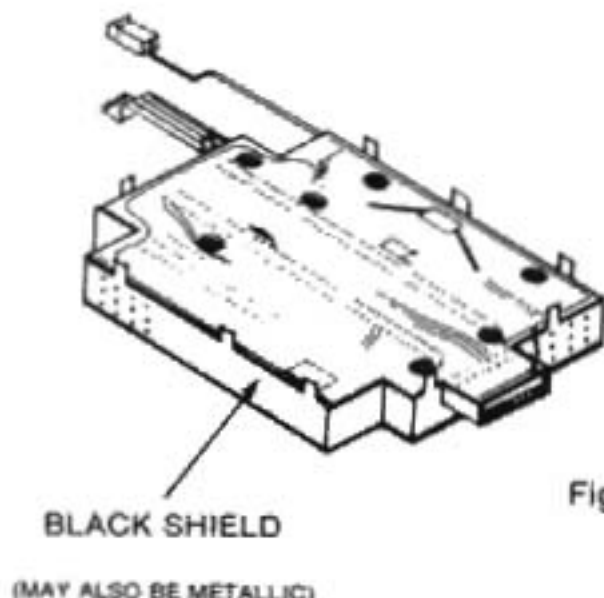

Figure 4-10
(1) Refer to Figure 4-10. Carefully unsolder and remove logic board shields. **NOTE: WHEN UNSOLDERING THE SHIELDS, BE SURE THAT EXCESS SOLDER DOES NOT CAUSE ANY SHORTS ON THE LOGIC BOARD COMPONENTS AND TRACES.**
(2) Inspect circuit board for evidence of broken or peeling circuit traces.
(3) Inspect components on circuit board for evidence of charring, swelling, arcing or shorting.
(4) Inspect connectors for bent, broken or missing connector pins.
(5) Make sure all socket mounted ICs are fully seated in sockets. Make sure that heat-sinks on ICs U1, U2 and U4 are securely attached to the ICs.
(6) Inspect all jumper wires for evidence of burned or frayed insulation. Make sure all jumper wires are securely soldered to circuit board.
(7) Make sure that connector J5 is securely attached to wire.
(2) Support the circuit board so that it will not move or cause the soldering iron to strike other components.
(3) Install new components in the same position as they were removed.
(4) Inspect and test all resoldered connections.
(5) Use desoldering equipment, such as a solder vacuum, when unsoldering components.
(6) Use a heat sink on semi-conductor leads when soldering or unsoldering in the area.
(7) Remove excess solder, solder splatter and rosin splatter after repairs are completed.
(8) Remove socket mounted ICs by carefully prying out of socket with a small screwdriver.
(9) Install socket mounted ICs by bending IC pins into position over socket holes, and applying firm, even pressure to IC.
(10) Replace jumper wires with wire of the same gage.
(11) Reinstall logic board shields as illustrated in Figure 4-10.